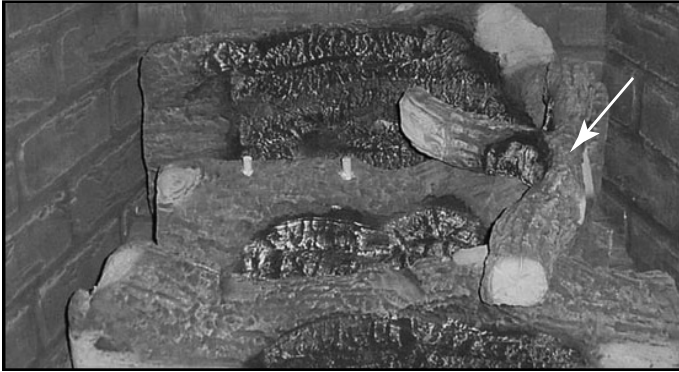

Figure 12.1 Placing First Top Log - IDV4833
- Refer to Figure 12.1, Intellifire Pilot Ignition (IPI) Wiring Diagram.
Place slot in bottom of top log over pin in top of base log. Align opposite end of log with white notched area in top of base log. Repeat for each top log. See Figures 12.1 through 12.6.